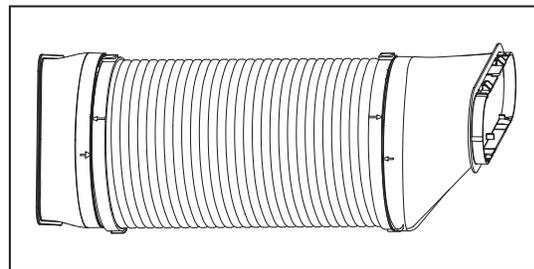

Fig. 3
2.3 After assemble, like the fig. (Fig. 3)